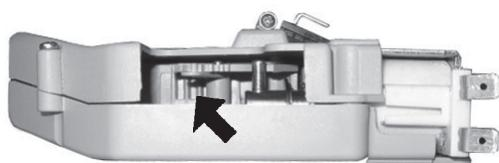

Fig. 49
- the dragging tooth of the inner panel on one of the 4 positions available, which indicate the basic quantity area (6 gr. - 7 gr. - 8 gr. - 9 gr.) (Fig. 49);